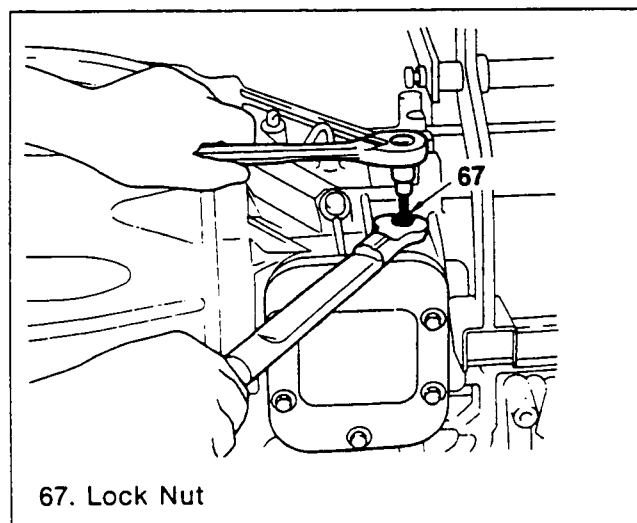

Figure 293. Brake Band Adjustment (2)
4. Fasten it with a lock nut (figure 293).